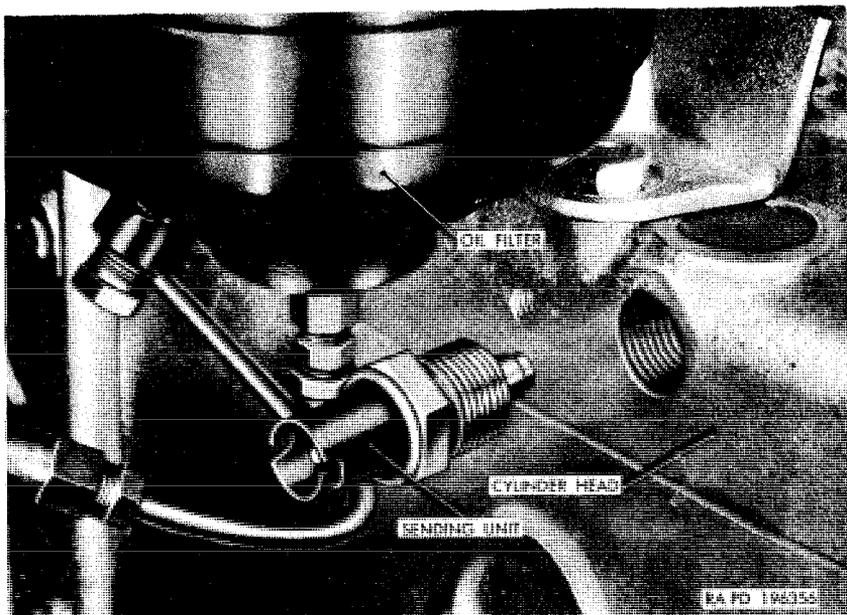

Figure 123. Water temperature gage sending unit removed.
b. Removal. (fig. 123).
- (1) Drain sufficient coolant from the cooling system to lower the level to below the cylinder head.
- (2) Disconnect the sending unit cable at the cable connector on the sending unit.
- (3) Unscrew the sending unit and remove it from the cylinder head.
- (1) Coat the threads of the sending unit (fig. 123) with liquid-type gasket cement, install the unit in the cylinder head, and tighten.
- (2) Connect the sending unit cable at the cable connector.